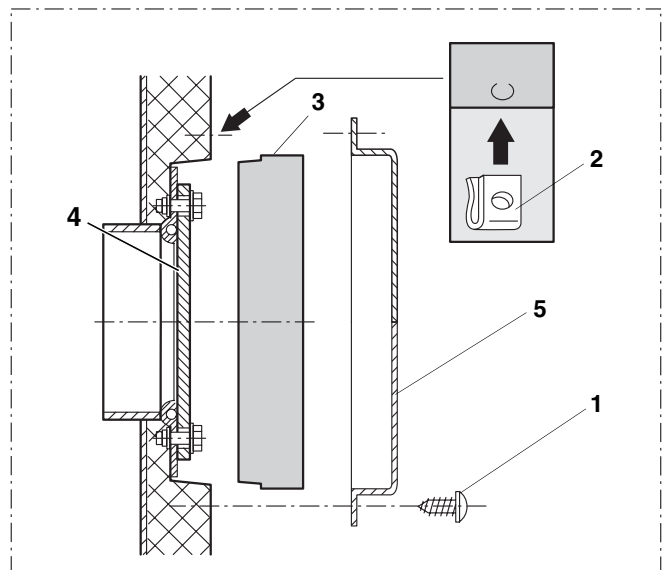

Fig. 11 Attaching thermal insulating disk and thermal insulating jacket
- Position thermal insulating disk before front access port (Fig. 11).
- Place 4 snap nuts over the holes in the thermal insulating foil (Fig. 11, **Item 2**).
- Screw cover over access port with 4 sheet metal screws (Fig. 11, **Item 1**).